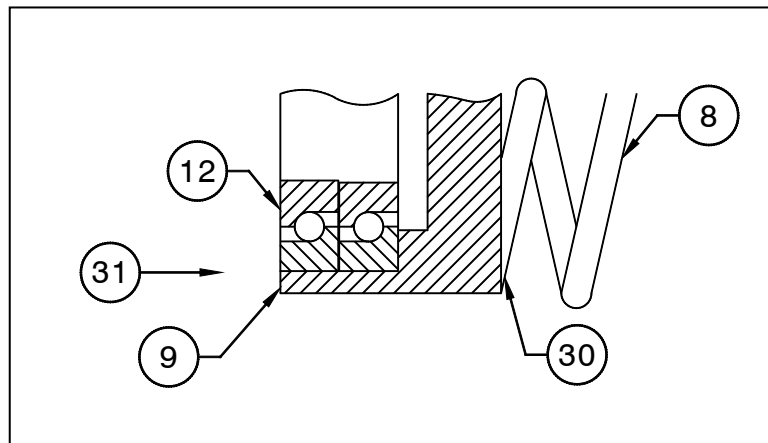

Figure 4.7e
- .6 Place the bearings (12) in the sliding bearing seat (9), as shown in Figure 4.7e